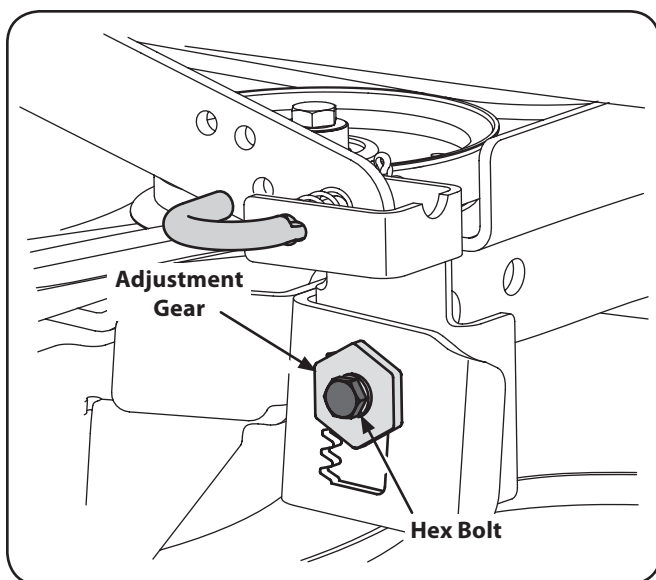

Figure 6-6
3. Loosen, but do NOT remove, the hex bolt on the left deck hanger bracket. See Figure 6-6.
4. Using a wrench, raise or lower the left side of the deck by turning the adjustment gear. See Figure 6-6.